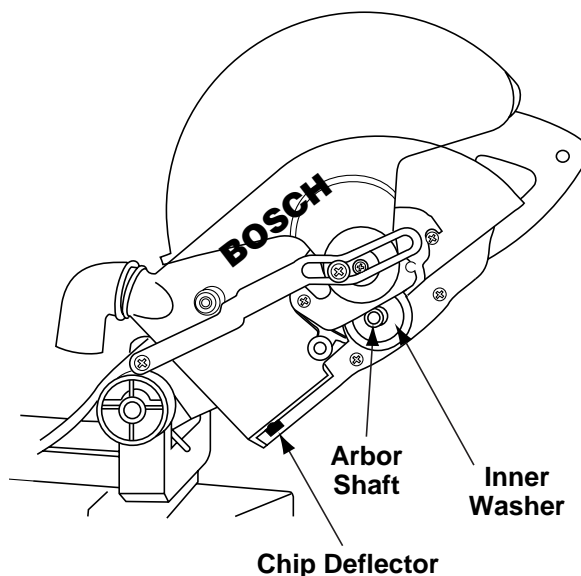

Figure 3. Blade Installation
7. To install the 10" blade, fit blade between the chip defectors and onto arbor shaft (Figure 3). NOTE: Make sure the rotation arrow on the blade matches the clockwise rotation arrow on the lower guard.